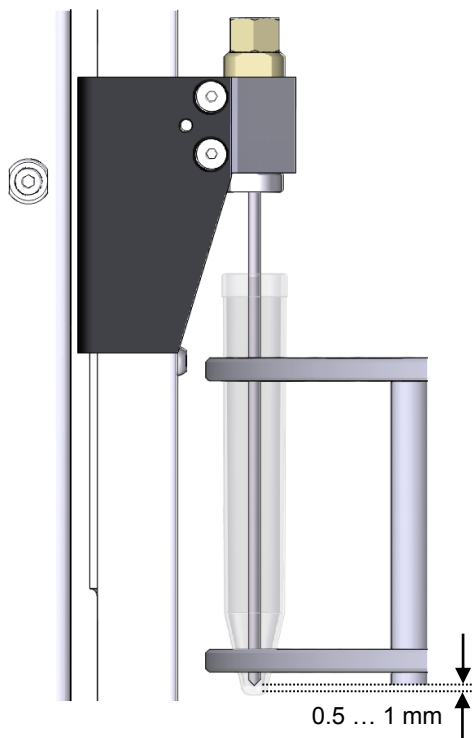

Fig. 14: Needle adjustment
8. Click «Start» to lower the needle to the chosen target position. For the exact positioning of the needle as shown in «Fig. 14», use the arrow up and down buttons   to adjust the needle position stepwise.